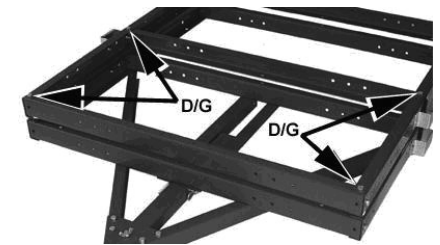

Figure 3-6
- Install four M10 x 20 bolts (D) and M10 nylon lock nuts (G) as shown through the rear frame rails and cross members. See figure 3-6.